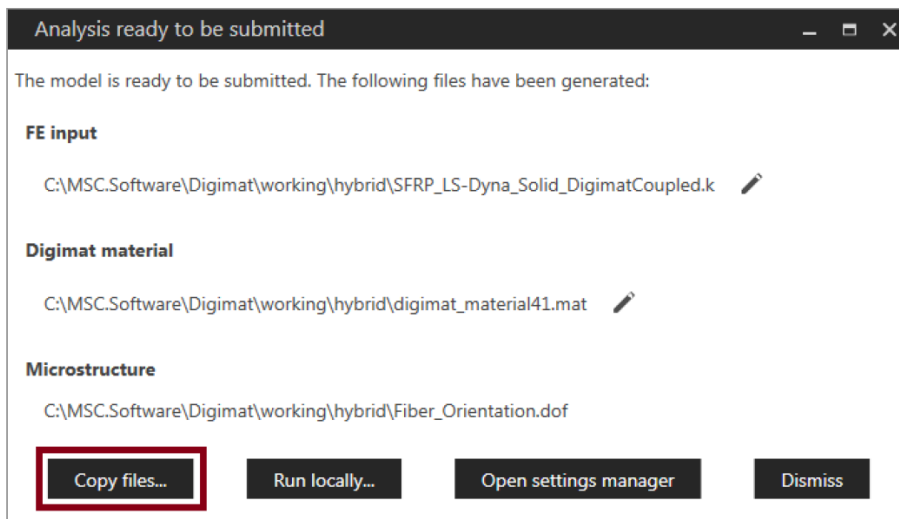

Figure 6-4 Copy ready-to-run files using hybrid/micro solution.
2. Select Digimat-RP **Copy files...** instead of **Run locally**, then **Dismiss** after copying the files (see Figure 6-4)